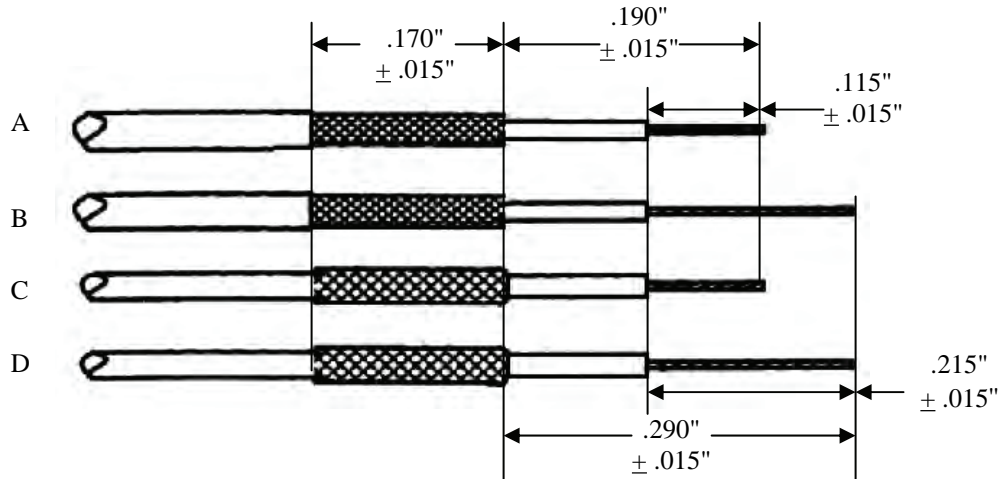

Figure 8. Coaxial Cable Stripping Method Selection
b. Prepare the coaxial cable to the dimensions shown in the applicable example in figure 8. For RG-178B/U cable slip D-600-0018 dielectric barrier between the shield braid and the cable dielectric.